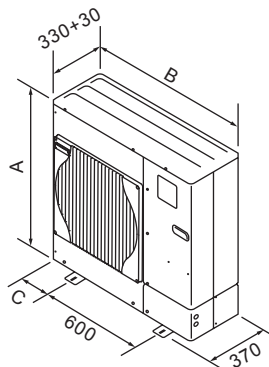

Fig. 1-1
9.1.2. Outline dimensions (Outdoor unit) (Fig. 1-1)